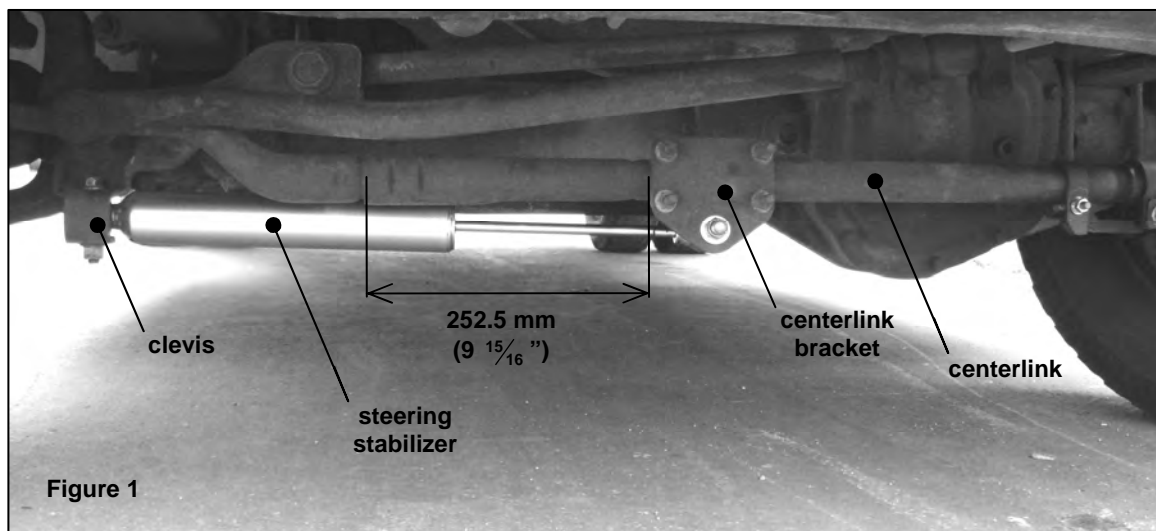

Figure 1
3. Toward the left side of the centerlink (as viewed from the front of the vehicle) there is a distinct shoulder beside two indentations. Using a tape measure, determine the distance from the left edge of the centerlink bracket to this shoulder on the centerlink. This dimension should be approximately 252.5mm (9 15/16 "). See Figure 1. If the bracket on the centerlink is not in this location then continue to Step 4, otherwise, skip to Step 5.
5. Install the stabilizer with the open bushing end into the clevis on the axle housing and the threaded stud end into the ½" hole on the centerlink bracket. The threaded stud must be pointed toward the front of the vehicle. See Figure 1.